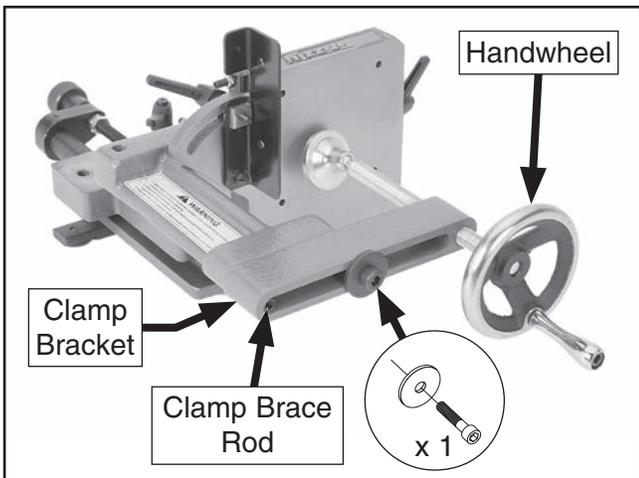

Figure 7. Clamp bracket and handwheel installed.
3. Slide clamp bracket over clamp brace rod, as shown in **Figure 7**, then secure it with (1) M8-1.25 x 50 cap screw and (1) 5/16" fender washer.
4. Align set screw in hub of handwheel (see **Figure 7**) with flat of clamp shaft, then slide handwheel onto shaft and tighten set screw.